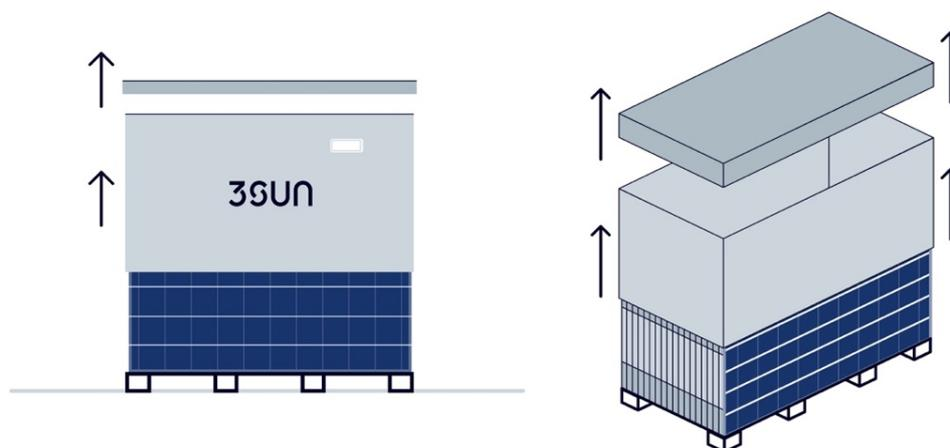

Figure 17: Removal of perimetral cardboard box and box top.
- b) Remove the box cardboard cap and then the perimetral cardboard box (Figure 17).